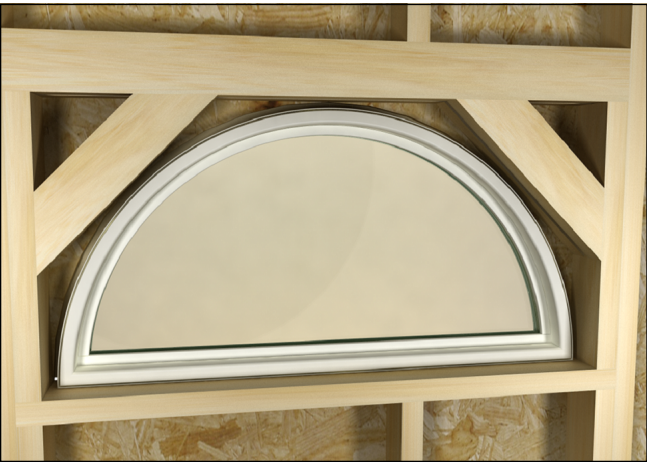

Figure 2
2. On shapes such as polygons, round tops, and octagons, make sure there is proper bracing. See Figure 2.